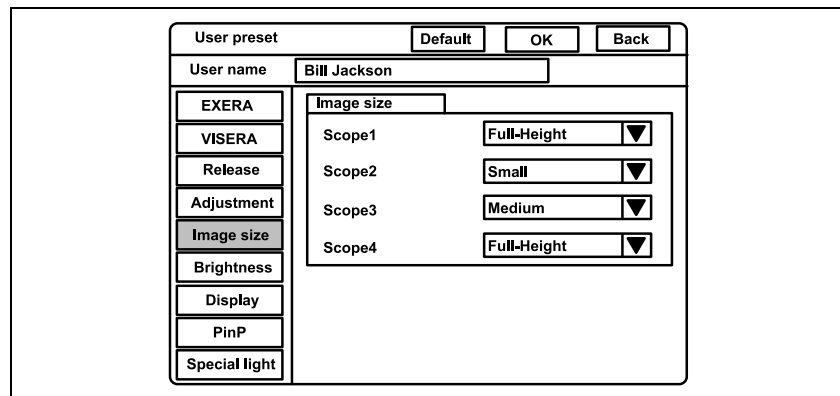

Figure 9.23
1. Click "Image size" on the system setup menu. The setting items appear on the right side of the window (see Figure 9.23).
2. Click "▼" of the scope type to use (see Figure 9.23). The image sizes appear in the pull-down menu.